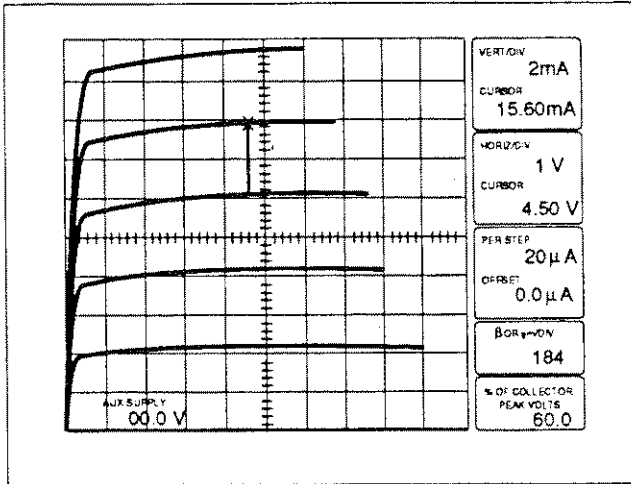

Figure 3-13. Measuring hFE with the Window cursor.
42. Use the up or down Position Control buttons to position the cursor's bright dot on an adjacent characteristic curve (see Figure 3-13). The figure now displayed in the β OR gm/DIV readout is the hFE of the device under test.